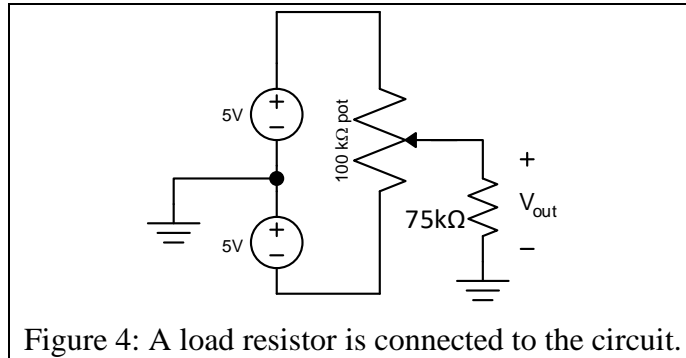

Figure 4: A load resistor is connected to the circuit.
3. As it stands, this is a poor voltage source because the output changes voltage if you place a load resistor on it. To prove this, connect the output of the circuit you designed in problem 2 to a $75\text{k}\Omega$ load (see Figure 4 below). This resistor represents a load like a motor or light source). What is the new V_{out} now that the circuit is loaded?